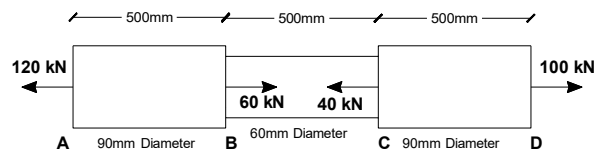

Figure-3
- (c) Calculate the stress and elongation of each part of the bar shown in Figure-3. Also, calculate total change in length of the bar. Take $E = 200000 \text{ MPa}$.